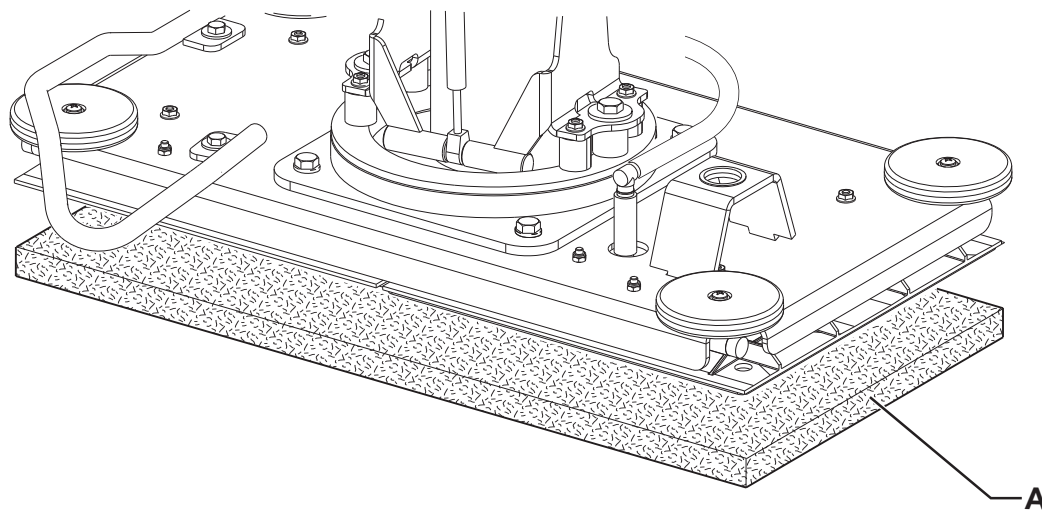

Figure 3
1. Insert the ignition key (58) and turn it to "I".
**Before turning on the switch (63), always check that between the deck (5) and the machine there is no foreign material which may prevent the deck from lifting.**
2. Lift the deck by pressing the switch (63).
3. Turn the ignition key (58) to "0" and remove it.
4. Install the pad (A, Fig. 3) so that it engages the plates on the BOOST® deck.